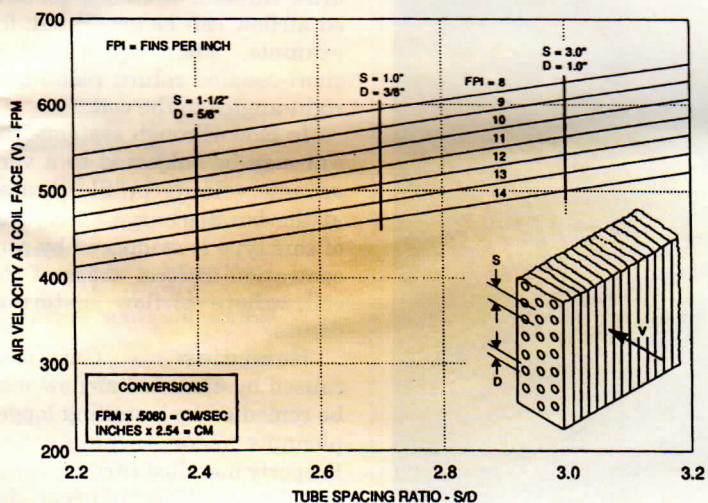

Figure 1. Coil face velocity above which condensate carryover occurs, for a typical cooling coil.
Figure 1 illustrates, for a typical coil design, the relationship among these parameters. The air velocity at the coil face, shown in this figure, is determined by dividing the air handler airflow by the face area of the coil.
Problem definition: When condensate carryover, due to coil design, occurs in a particular system, it can be remedied only by changing one or more of the parameters included in Figure 1.
In installations where the coil design is similar to that shown in Figure 1, the reduction in air velocity needed to eliminate carryover can be approximated as follows.
- With the coil face velocity, enter Figure 1 at the spacing ratio and fin spacing determined from coil measurements. The difference between this point and the point where carryover is indicated by Figure 1, indicates the reduction in velocity and, therefore, the airflow reduction required to eliminate carryover.
Distorted air velocity profile entering the cooling coil. Air entering the cooling coil with a non-uniform velocity profile can cause carryover, even when the average face velocity is below where carryover would occur, as indicated in Figure 1.